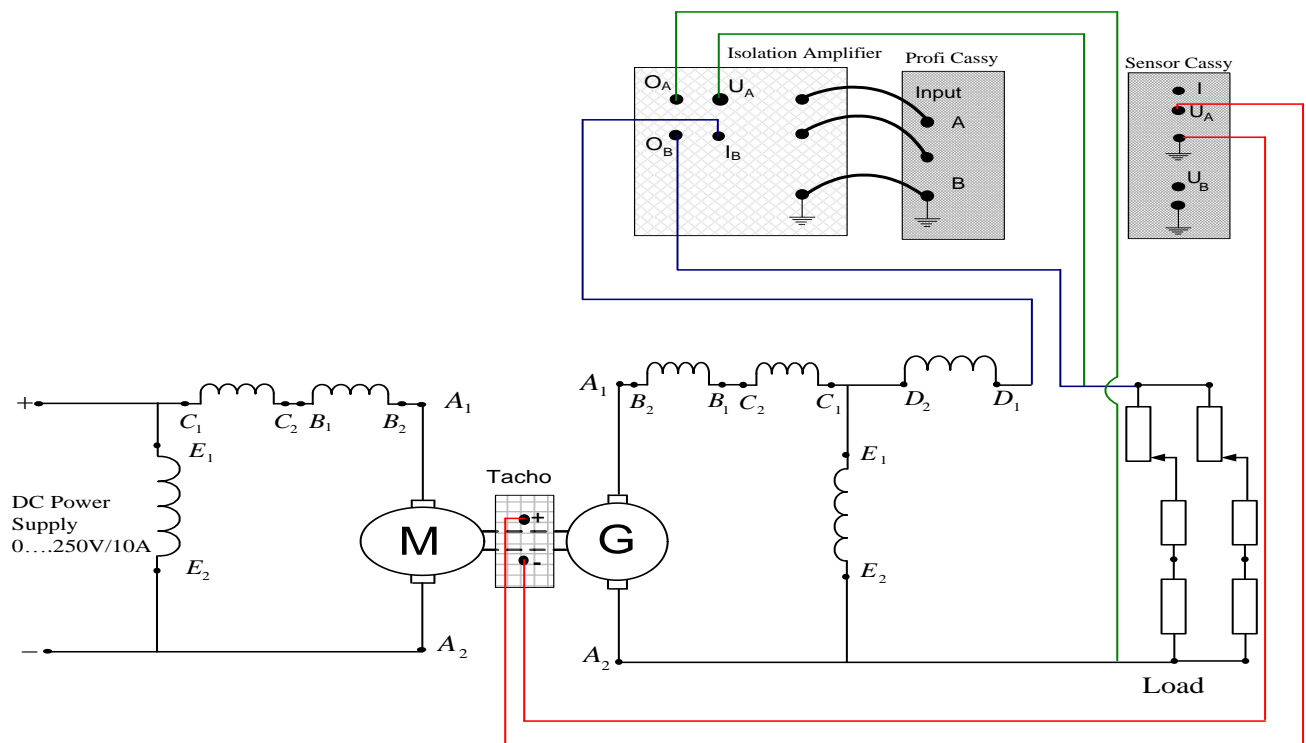

Figure 5: Differential Compound DC Generator Set Up
40. Connect the circuit as shown in Figure 5 using Cassy measurement Connection for load voltage, for load current, and for rotor speed. Note that at this stage the load resistance value has to be at 100%.